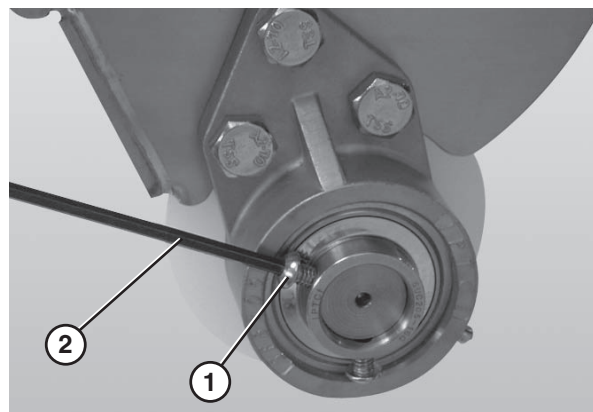

Figure 79
5. Tighten the 3 hole flange with bearing fasteners (Figure 79, item 1) using a hex wrench (Figure 79, item 2) to 6 N•m. Check after 24 hours of conveyor use.